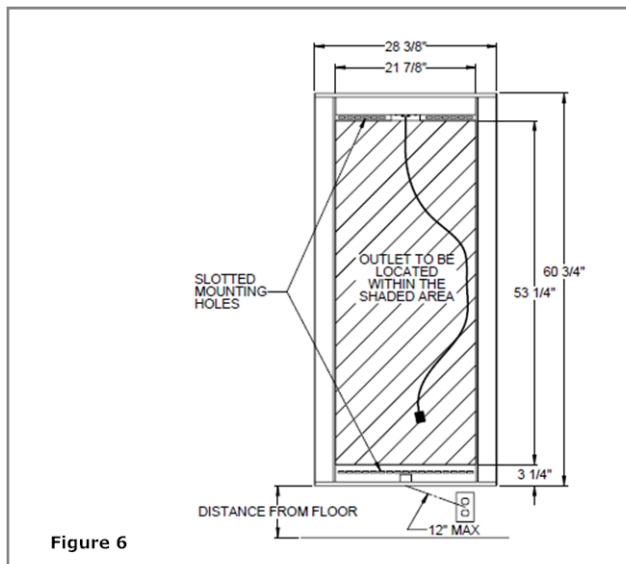

Figure 6
2. Determine mounting location. Location must have a standard 115V 15 amp outlet located within the inner area of the fixture or within 12" from the bottom center of the mirror frame. The fixture includes slotted mounting holes located in the top and bottom of the fixture. The distance from the floor is to be determined by customer. Stylmark recommends this distance to be a minimum of 8". **See Figure 6**
See Figure 6